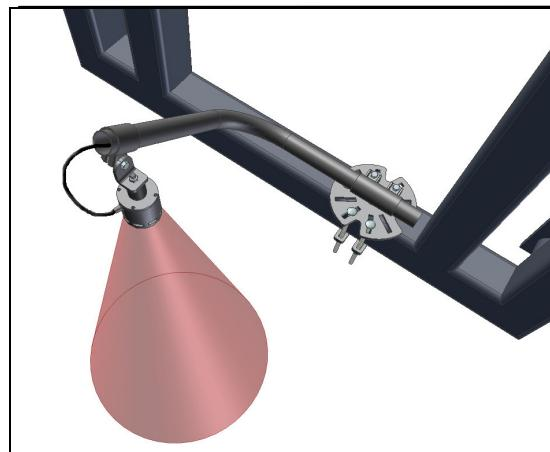
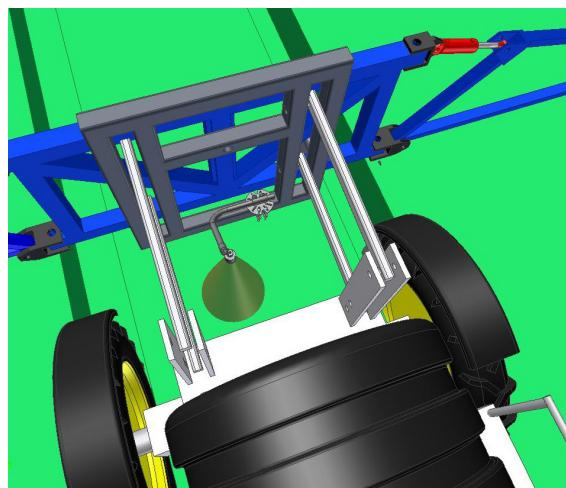

Figure 12 – Main Lift Sensor Bracket Mounting Position
Figure 13 – Main Lift Sensor Mounted in the Correct Location
2. The bracket can then be mounted to the lowest frame member on the center section of the sprayer. The bracket should be mounted so the sensor mounting collar is in approximately the center of the sprayer and ahead of the boom (**Figure 12** and **Figure 13**).
3. Mount the sensor onto the sensor mounting collar (**Figure 12**).